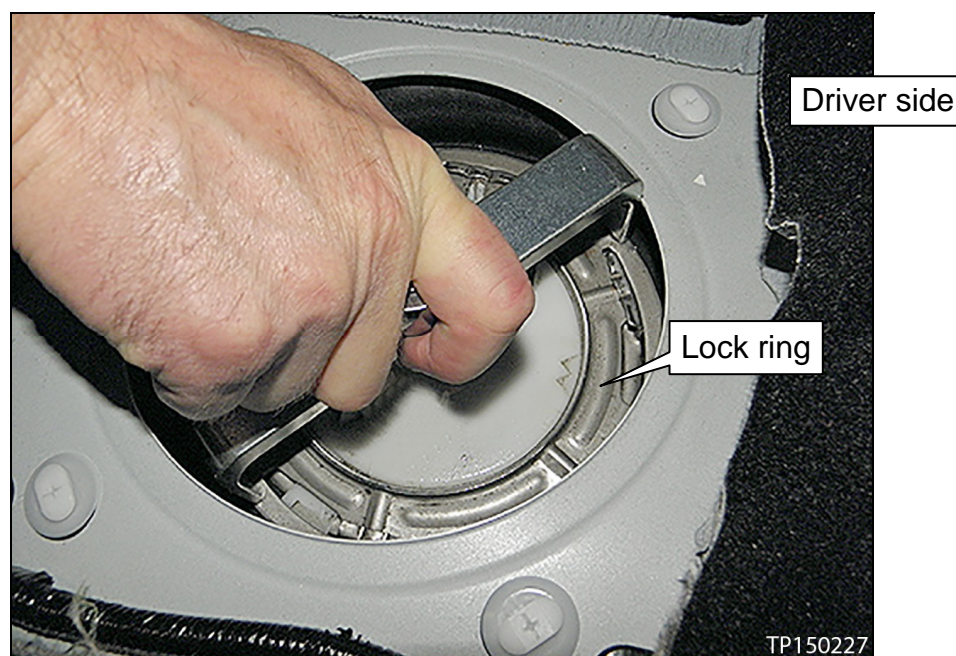

Figure 19
30. Install the fuel level sensor lock ring (Figure 19).